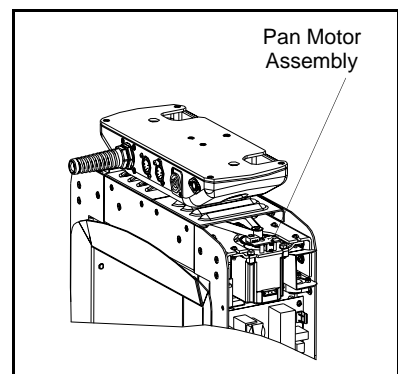

Figure 20: Pan Motor Assembly Replacement
- Step 5. As shown in **Figure 20**, loosen, but do not remove, four 8-32x1/2" PPB screws.